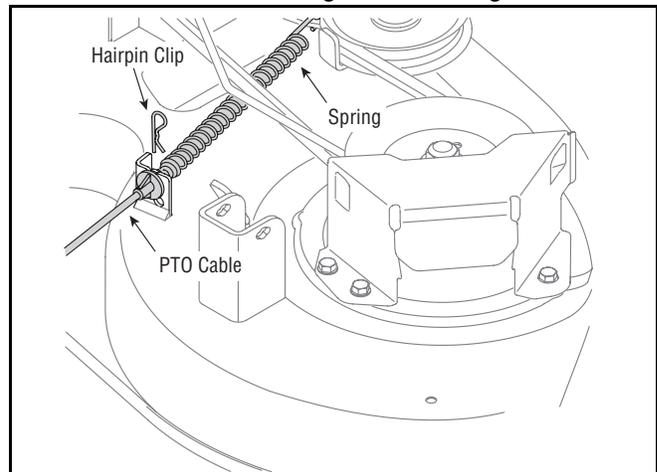

Figure 20
3. Remove the hairpin clip that secures the PTO cable to the rear of the cutting deck. See Figure 20.